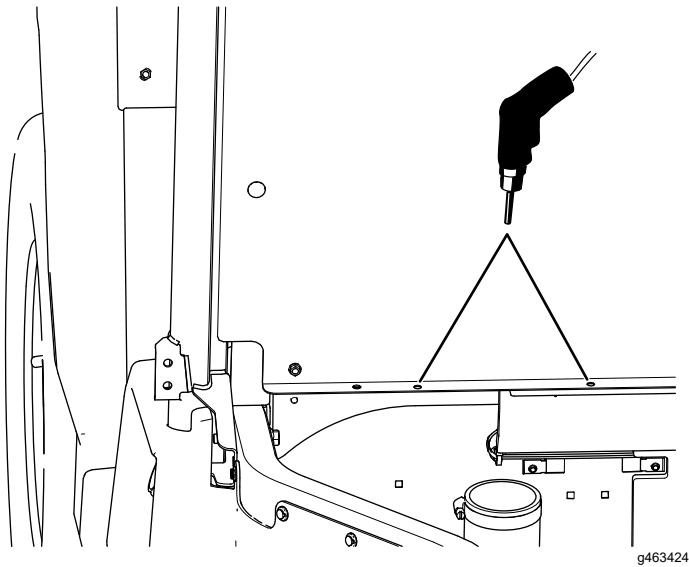

Figure 26
- D. Move the CVT-intake hood and drill the 2 holes (11/32 inch) into the seat panel (Figure 26).